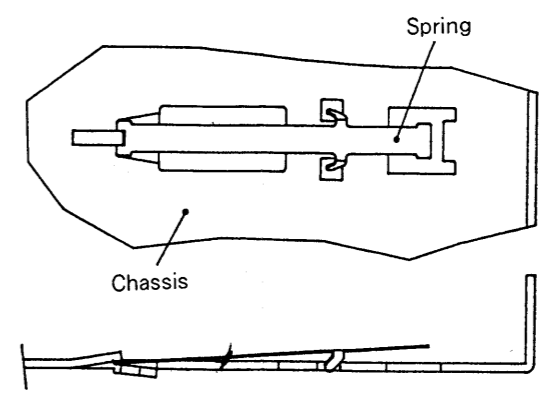

Fig.6
1.Place the spring onto the chassis as show in Fig.6.